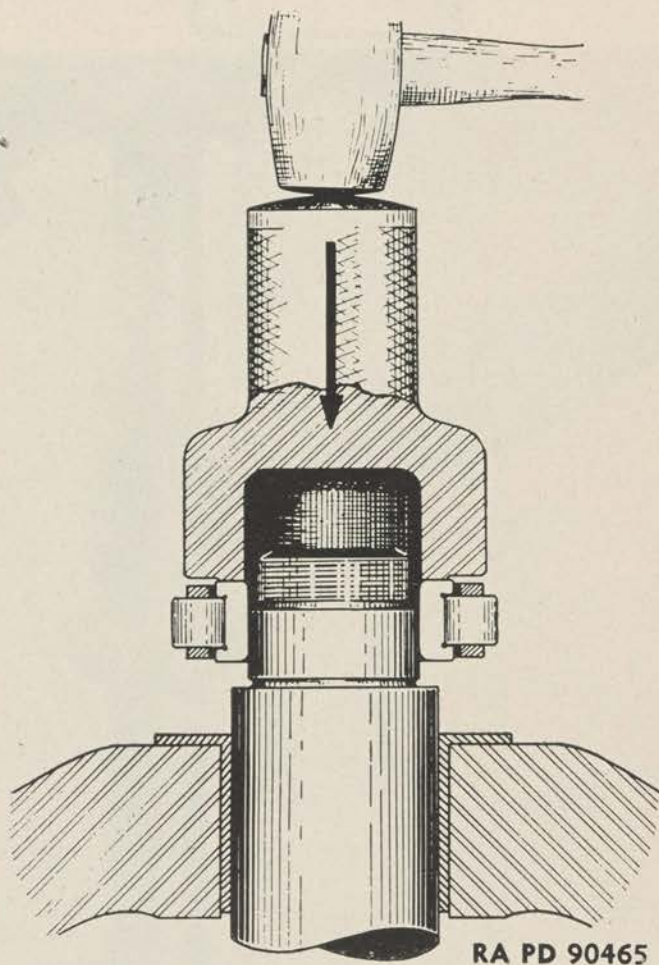

Figure 11. After bearing is on far enough to align itself with shaft, drive to firm seat against shoulder.
c. DRIFT OR BEARING INSTALLER (fig. 11). If the end of the shaft is flush with the bearing, use a drift or bearing installer with a flat end. When the shaft projects beyond the end of the bearing for a short distance, use a drift or bearing installer with a counterbore. Tap lightly at first to make sure the bearing or ring goes on square and does not scrape or bur the bearing seat. Be sure bearing is tapped to a firm seat against the shaft shoulder.